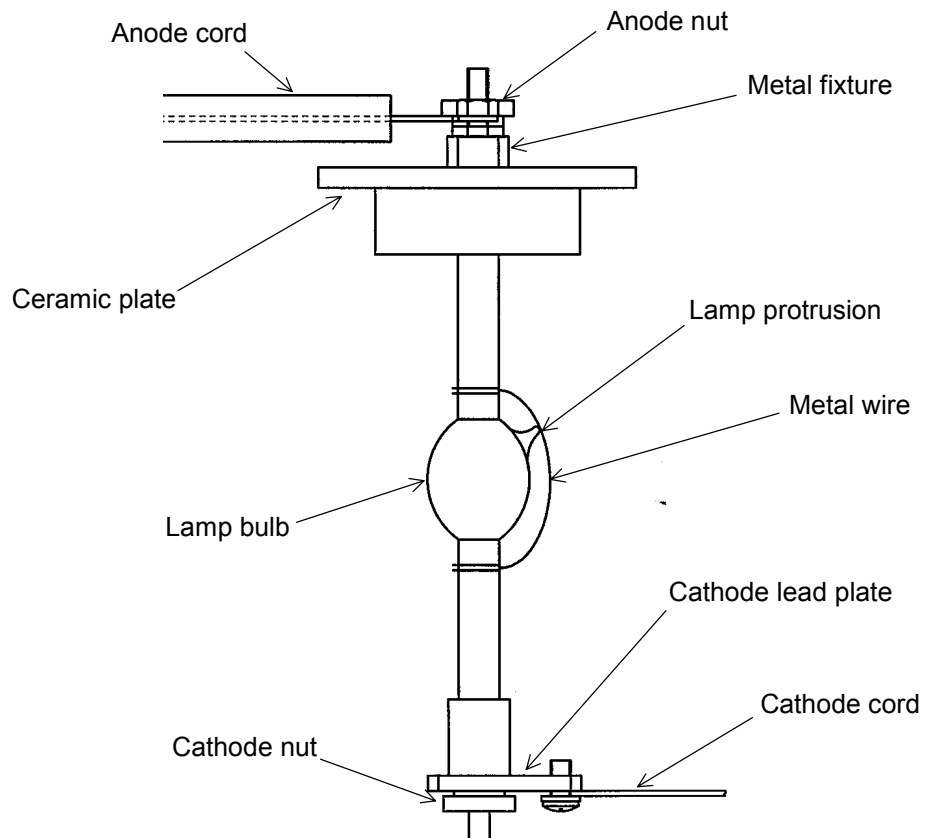

Fig. 5-5 Detachment of Xenon Lamp
Loosen the anode nut of the lamp and detach the anode terminal of the lamp (marked +) from the metal fixture on the ceramic plate (Fig. 5-5). Be careful not to touch the lamp bulb. Note that a thin metal wire is attached near the center of the bulb, which facilitates ignition of the lamp. Take care not to break this wire when handling the lamp.
- (g) Loosen the cathode nut and remove the cathode lead plate (Fig. 5-5).